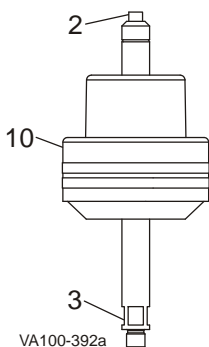
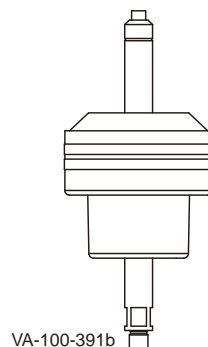

Figure 46:
Figure 47:
3. Using a 5/8-inch wrench on the lower stem (Figure 46, item 3) and a 3/8-inch wrench on the upper stem (item 2), unscrew and remove the two actuator stem halves.
4. Turn the piston/spring assembly (item 10) over.
5. Install the actuator stem halves in the piston/spring assembly and tighten to 200 in/lbs. See Figure 46 for Air-to-Raise configuration; Figure 47 for Air-to-Lower configuration.